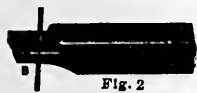

Fig. 2
If this pin does not move freely in its socket, but stays down, you know that it has absorbed moisture and has swelled up. If you sandpaper it lightly, thus reducing its size, you will remove the trouble. If, however, it moves freely in its socket, and does not line up with the others, then you know that the trouble is in the valve. In that event refer to paragraph 3, and follow directions given for using the bent wire fully explained therein. If the trouble is in the valve, by proceeding as above you will remove the complaint; but as a matter of further information we desire you to learn just what a valve pin is, as it might be the cause of the trouble. Please refer to Figure 2. This shows the end of the valve (A) as well as the valve pin (B) which holds it in place. If this valve is pushed down far enough to pass the end of the valve pin which holds it in place, it would naturally permit the air to rush through it, as it would be held open. It is a very simple matter to adjust such a complaint if you will follow the suggestion as given in paragraph 3.